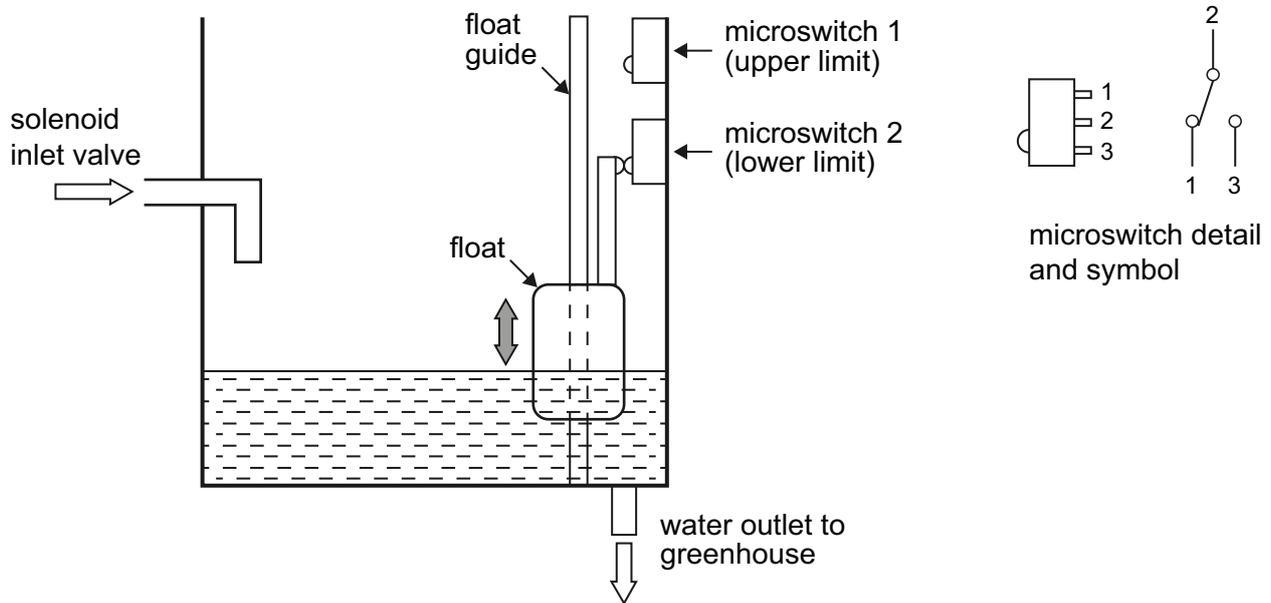

Fig. 2(c)
- (i) Show with the aid of an annotated circuit diagram how the microswitch shown in **Fig. 2(c)** could be used in conjunction with other components to provide a logic '1' input to a digital input of a PIC when operated by the float. [2]